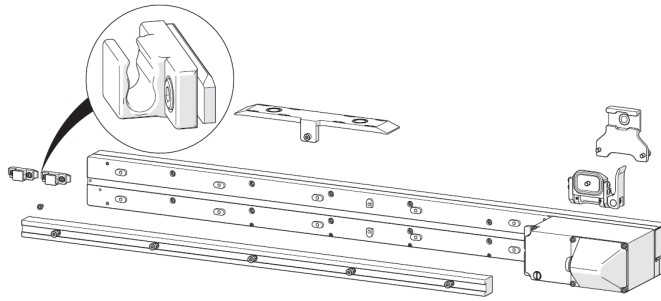

Figure 2-51 Ensure proper cable management clip orientation
9. Confirm the cable management clips are in proper orientation (see Figure 2-51 on page 82).